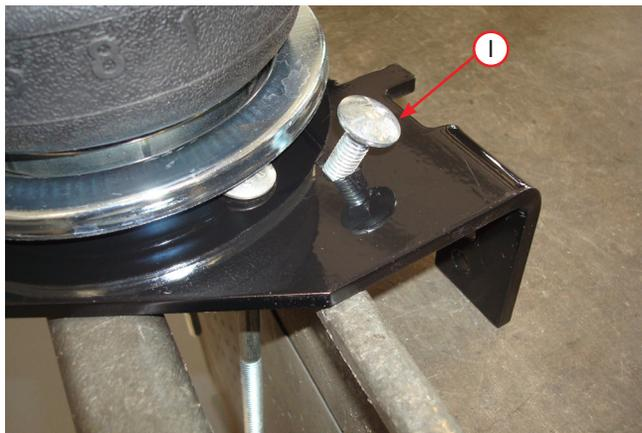
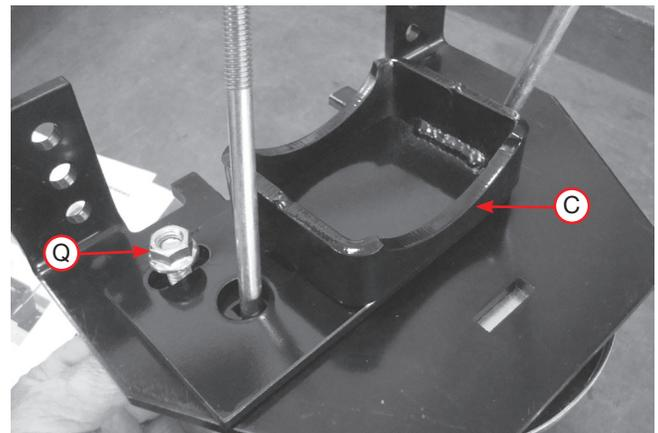

Fig. 18
Fig. 19
- Insert the 3/8"-16 x 1" carriage bolt (I) (Fig. 18) through the top of the lower bracket. Flip over the assembly and install the lower bracket cup (C) onto the lower bracket main plate over carriage bolt and cap with serrated flange lock nut (Q) (Fig. 19). Snug bolt down but leave loose enough for the bracket to move freely in slot.